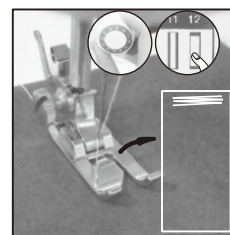

Fig.23
2. Turn on the switch and sew 3-4 stitch in low Speed, then turn off switch(Fig.23).